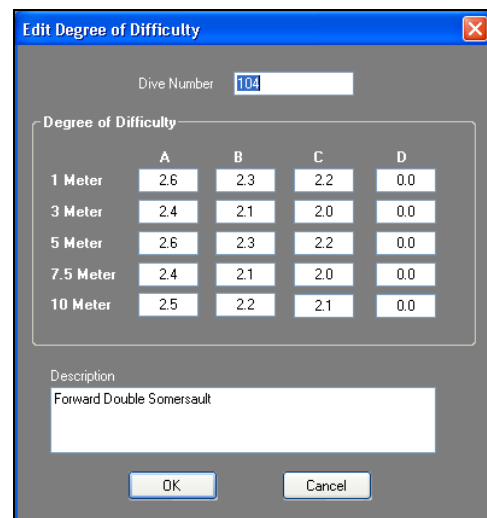

Figure 136: Edit Degree of Difficulty Window
3. In the *Edit Degree of Difficulty* window (*Figure 136*), users may change the *Dive Number*, *Description*, and the *Degree of Difficulty* for each platform and position. Highlight a current value to type in the new degree of difficulty.